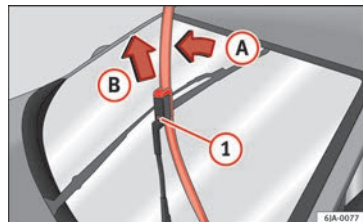

Fig. 69 Windscreen wiper blades.
- Lift the windscreen wiper arm away from the glass moving the blade slightly in the direction of the arm – arrow **A** » » » **Fig. 69**.